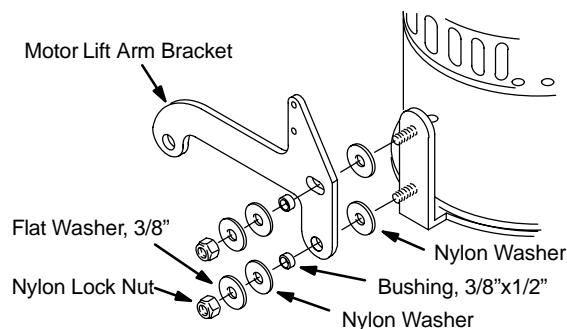

FIG. 7
9. Install new brackets using old hardware as shown (Figure 7). **IMPORTANT STEP: Using a torque wrench, tighten both nuts to 10 ft lbs (13.5 N-m) and then back nut off 1/4 turn. Brackets MUST be able to move freely. DO NOT OVER TIGHTEN NUTS. Repeat step for opposite side.**